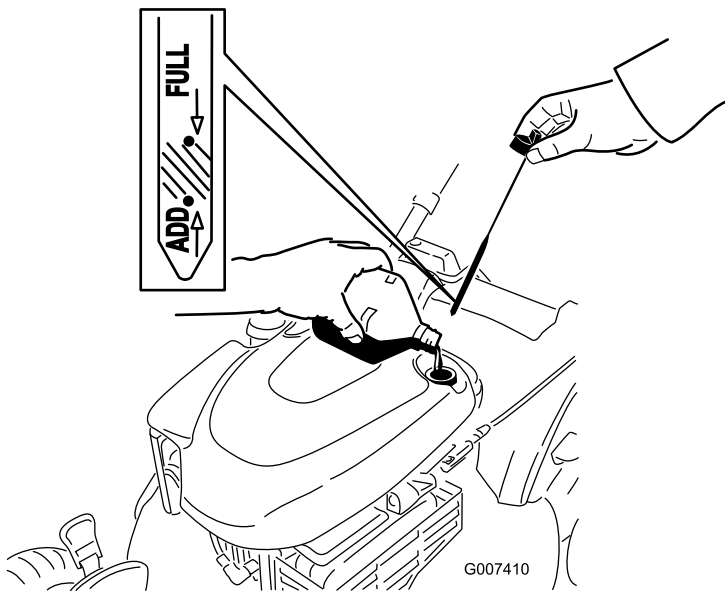

Figure 7
2. Remove the dipstick (Figure 7) and pour about 3/4 of the crankcase capacity of oil into the oil-fill tube.
5. Remove the dipstick and read the oil level on the dipstick; refer to Figure 7.
- If the oil level is too low, add a small amount of oil slowly to the oil-fill tube, and then repeat steps 3 through 5 until the oil level is correct as shown in Figure 7.